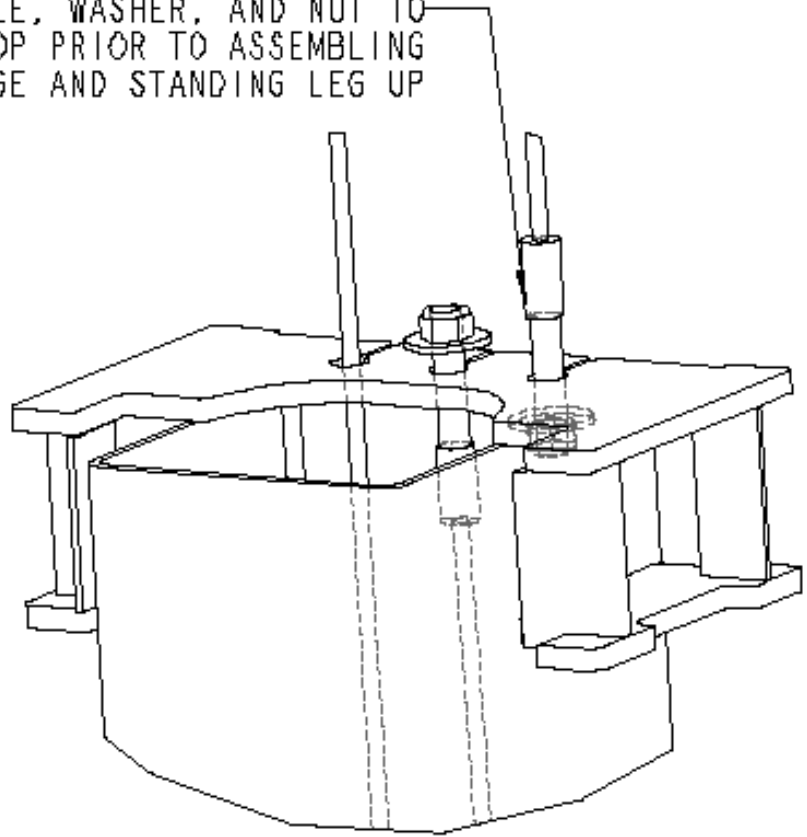

Figure 5
- M. Feed one end of an equalization cable down through the rightmost hole in the carriage top, figure 5. Continue to feed the cable until it extends out the bottom of the carriage. Attach a nylon insert locknut and washer to the end of the cable so that 1/8" of cable stud extends past the end of nut. Pull the opposite end of the cable until the washer contacts the carriage top. Repeat for the other cable/carriage.